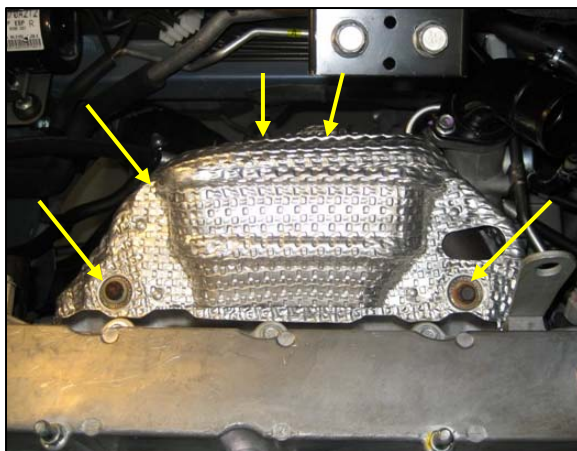

Fig. 9
10. Remove the heat shield covering the exhaust manifold and downpipe. Bolt locations are shown by arrows in figure 9. These parts will be reused (5 bolts, 10mm socket).